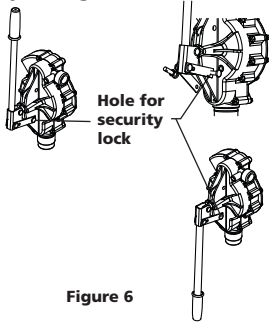

Figure 6
**CAUTION** This hole is used for security lock only (See fig. 6).